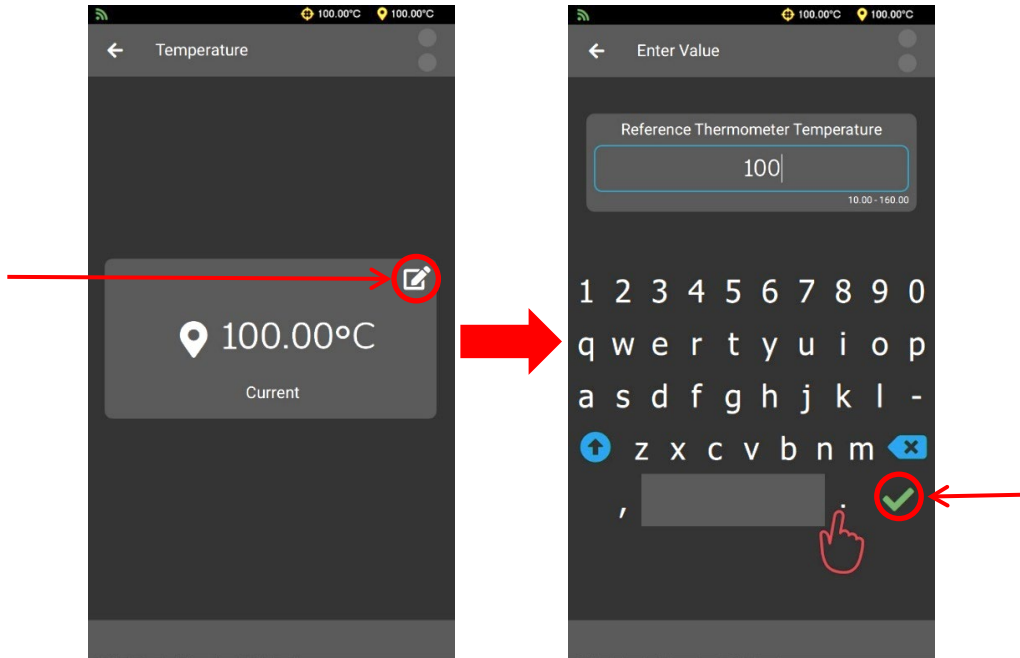

Figure 21: Edit Temperature
- Once the thermometer reaches temperature, enter the reference temperature measured into the UltraVIS by using the edit button and entering the thermometer reading on the next screen. Once finished, use a single touch to select the **Green Checkmark**. See Figure 21.